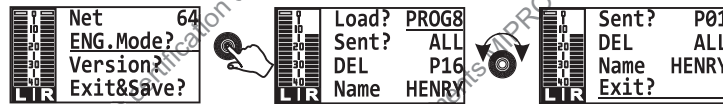
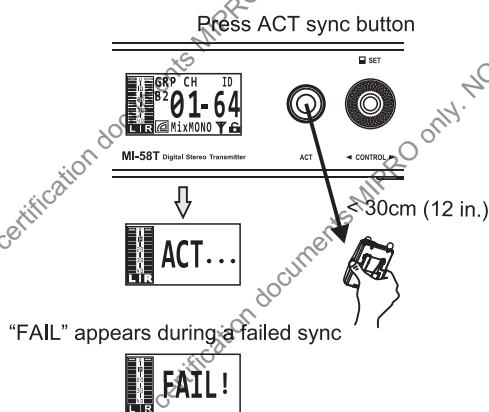

Fig. 16
Fig. 19
9. ENG. Mode (Engineer Mode), as Fig. 16: In this mode, you can load the settings of the other MI-58R receivers by one MI-58T.
- (A) Caution 1: All parameters should load from the receiver to the transmitter, set the names and order then send back to a designated receiver is operated and monitored by professional sound engineer.
- (B) Caution 2: Load or Send actions should be completed by ACT (as Fig. 19). Ensure to bring the ACT sync window of the transmitter close to the receiver and then press the rotary knob, the screen displays "ACT..." to denote synchronization. Wait until "ACT..." disappears, and the data transmission is completed.